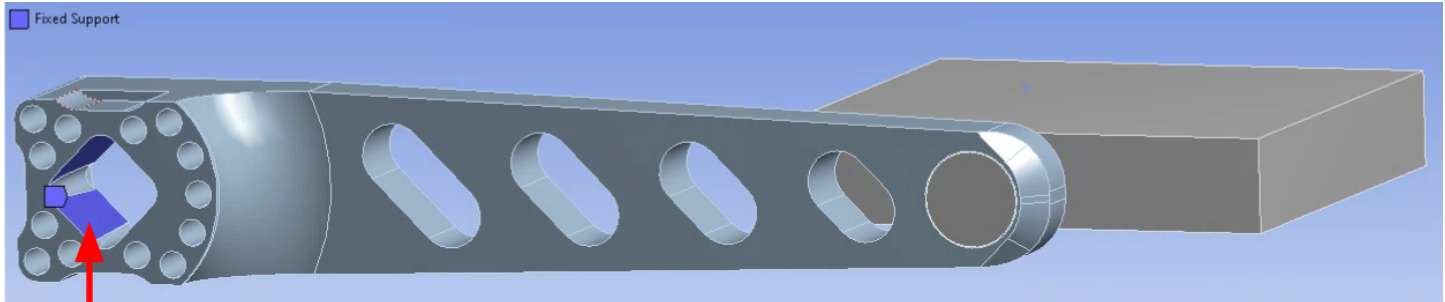

Figure 7: Image showing the square tapered surfaces confined to a fixed support.
1. The four square-tapered surfaces in the crank are confined to a fixed support. This means that these four surfaces are not allowed to move at all in the simulations. See *Figure 7*.